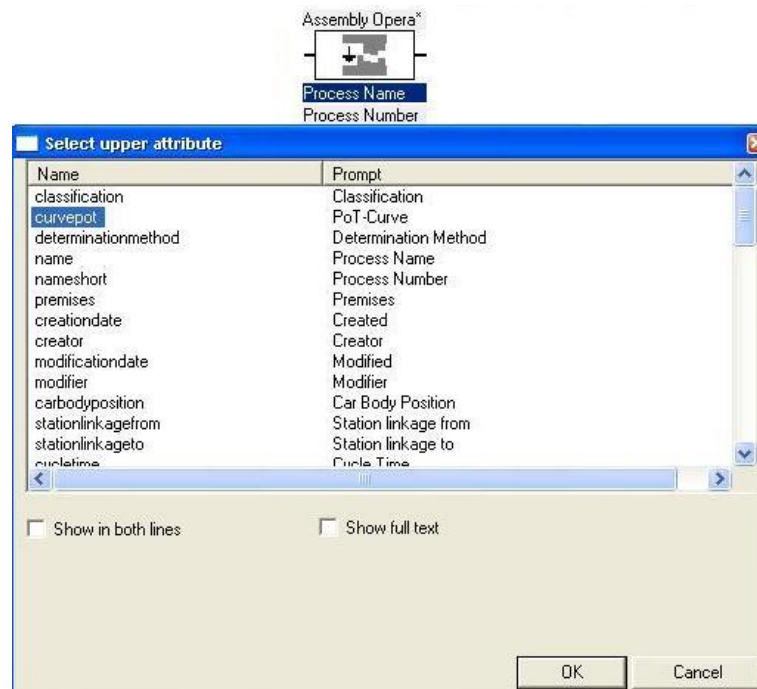

Figure 6: Select New Attribute – Line one PoT Curve
- 3) Confirm the selection with **OK**. *Please refer to the Figure 6.* The change is immediately shown in the toolbar under the plantype and in the Process Graph.